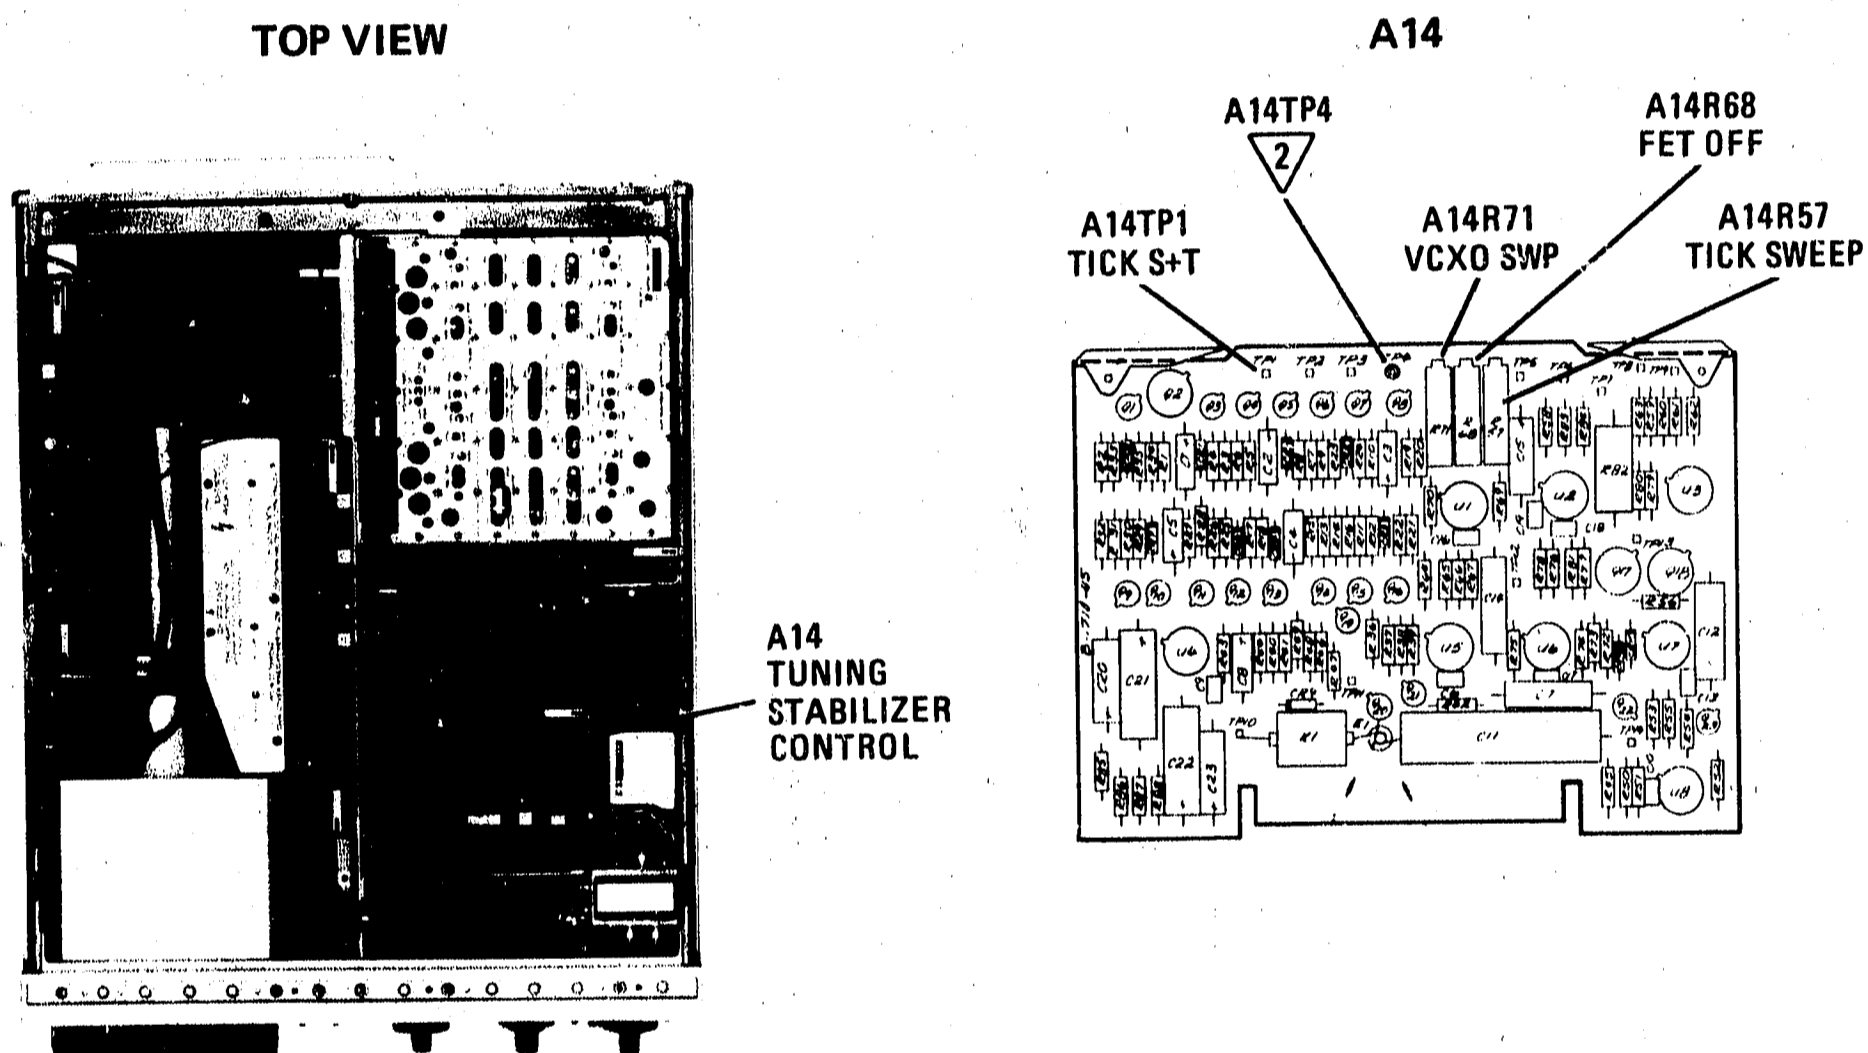

Figure 5-43. Tuning Stabilizer Control Adjustment Locations
- Connect digital voltmeter across A14TP1 TICK S + T (high DVM input) and A14TP4 (low DVM input). (See Figure 5-43.)